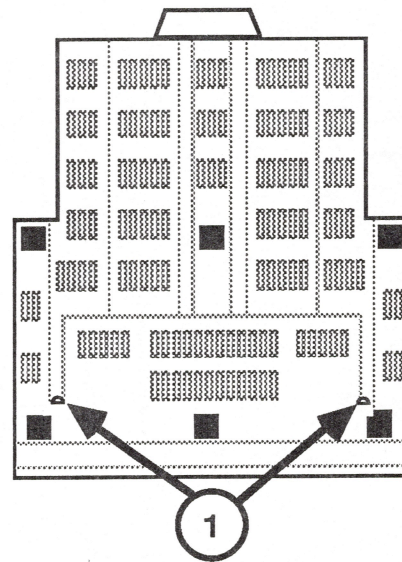

FIGURE 43
4. Replace the two screws (Figure 43, #1) at the bottom of the monitor.